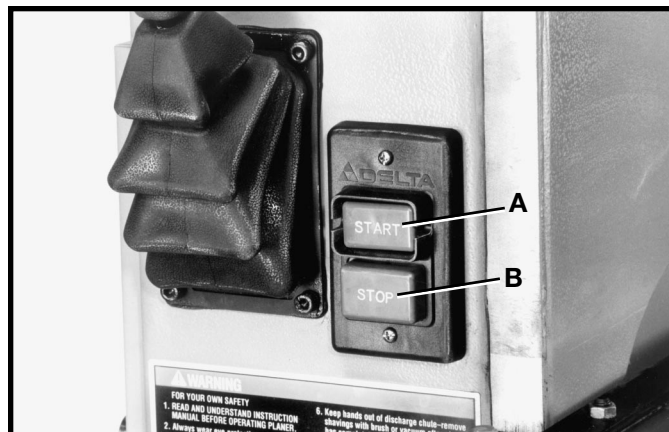

Fig. 13
The power switch is located on the left side of the machine. To turn the machine "ON," push the green start button (A) Fig. 13.